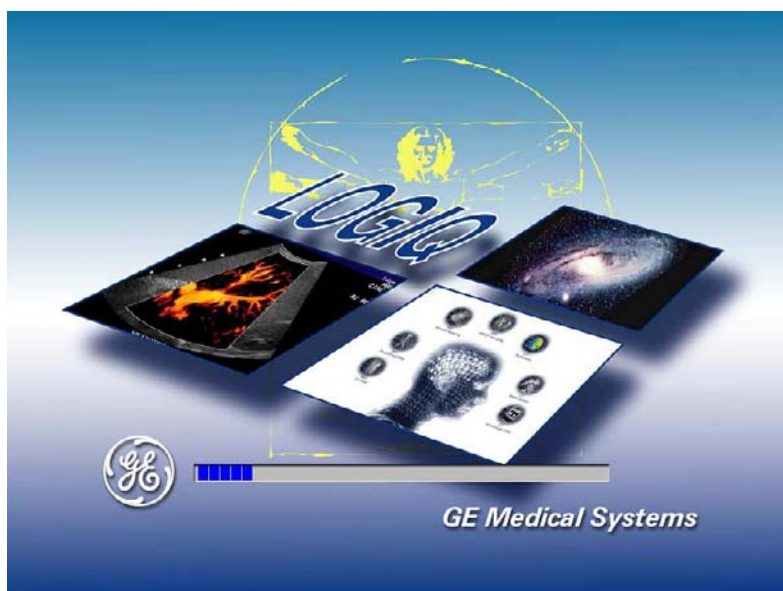

**Figure 4-2 Power On/Off Standby Switch Location**
- 1.) Press the **ON/OFF** key at the front of the System for about two (2) seconds. Refer to Figure 4-2.